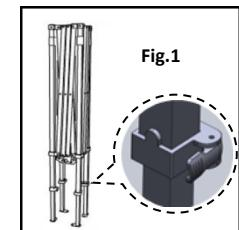

Fig.1
- Push inward on one of the levers located inside of the tent frame legs, and pull out the extension from the top portion of the leg to the 1st level. Repeat for the remaining legs (Fig. 1).
- Push inward on one of the levers located inside of the tent frame legs, and pull out the extension from the top portion of the leg to the 1st level. Repeat for the remaining legs (Fig. 1). **NOTICE:** There are four holes in each leg for adjusting the height of the tent. Do not fully extend legs downward at this time.
- Extend the leg to the desired height (second or third hole from the bottom of the leg) push inward on the lever located inside of a leg, and release to insert the safety pin into the selected hole. Repeat to adjust each remaining leg (Fig. 1).